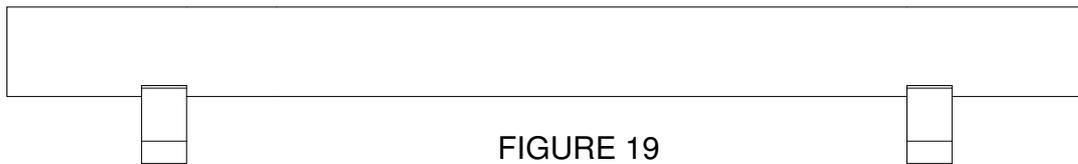

FIGURE 19
- 2 Two floor fixing brackets and two top brackets are supplied with each length of side flue ducting. A bracket should be positioned approximately 150mm (6") from the end of each length of duct. See Figure 19.